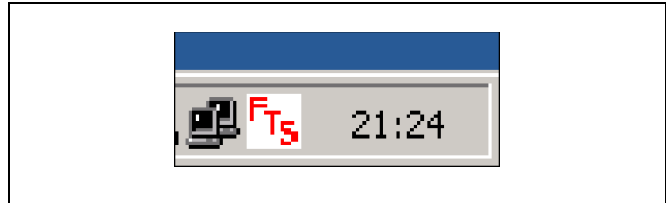

Fig. 2.1 'File Transfer Schedule' Icon
2.1 Starting the Program – Figs. 2.1 and 2.2
When the program is running, a FTS icon is displayed in the system tray (adjacent to the clock at the right-hand end of the status bar) – see Fig. 2.1.